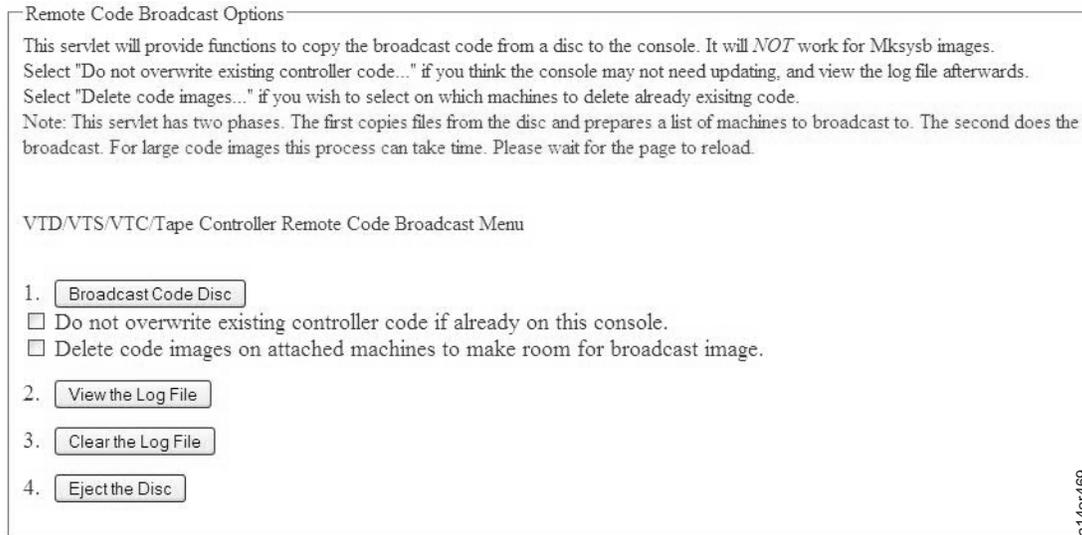

Figure 159. Remote Code Broadcast Options
3. Select **System Tools > Remote Code Broadcast**. You see the screen shown in Figure 159.
- Figure 159 on page 122 provides an example, which depicts that the code broadcast will fail because the attached control units are "Unavailable."
- If an error occurs, select **View the Log File** from Figure 159 on page 122 to check the log file to determine the failure.
- If the status is 2+ IMGS (which indicates "2 or more images") on the attached system you wish to broadcast to, the image is not broadcast unless you select the "Delete images..." option depicted in Figure 159 on page 122, and you remove the images from the target system.
8. You also can use the following additional options which are depicted in Figure 159 on page 122: